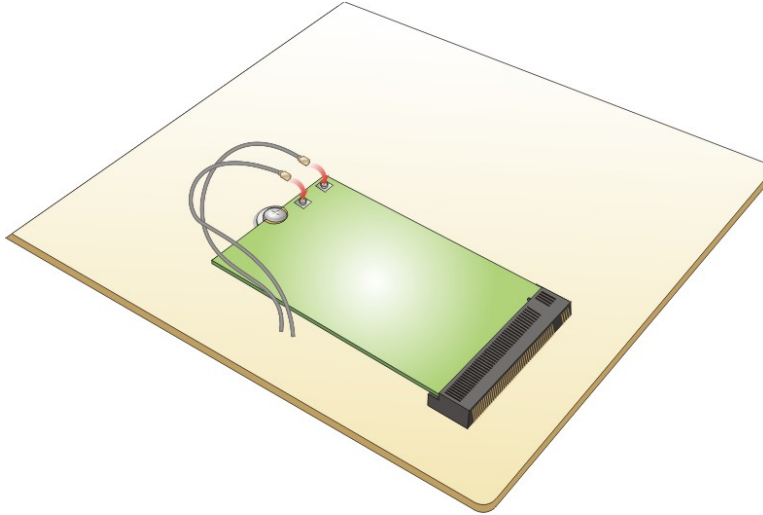

Figure 3-16: Connecting RF Cables
Step 6: Secure the WLAN module with the screw previously removed (**Figure 3-16**).
Step 7: Connect the two RF cables to the antenna connectors on the WLAN module (Figure 3-16).